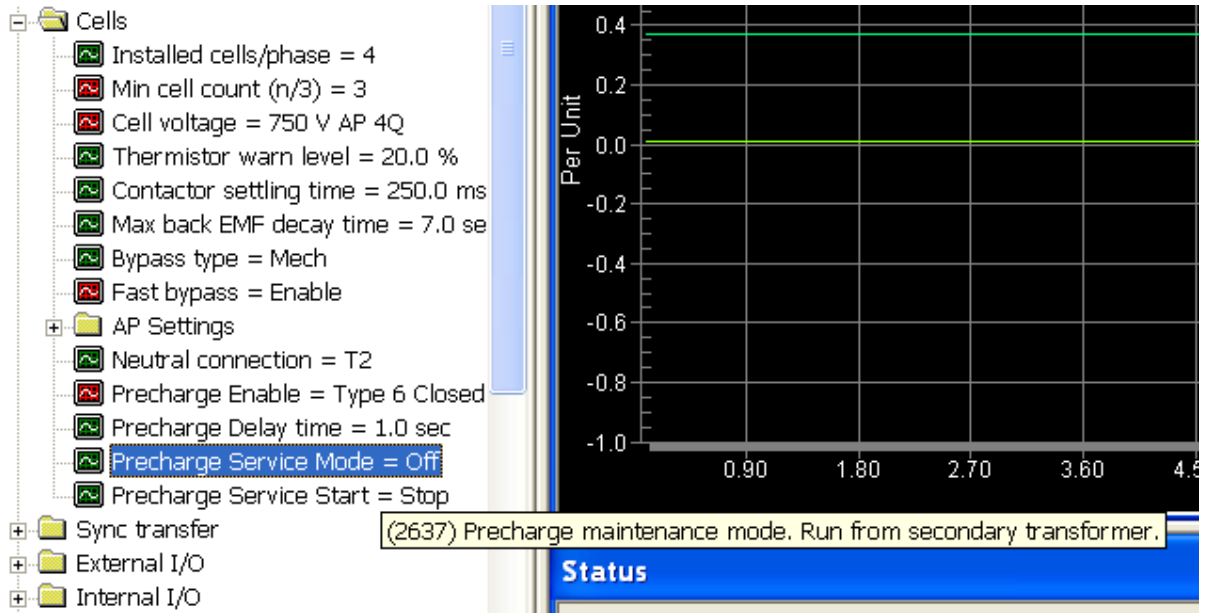

Figure 5-46: Precharge Service Mode On/Off
1. Turn on Precharge service mode by setting parameter Precharge Service Mode (ID 2637) to “On” (see Figure 5-46).